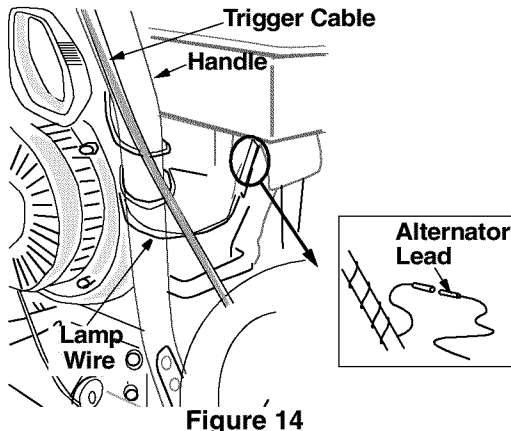

Figure 14
- Wrap the wire from the lamp down the right handle. Plug wire into the alternator lead wire under the fuel tank. See Figure 14.